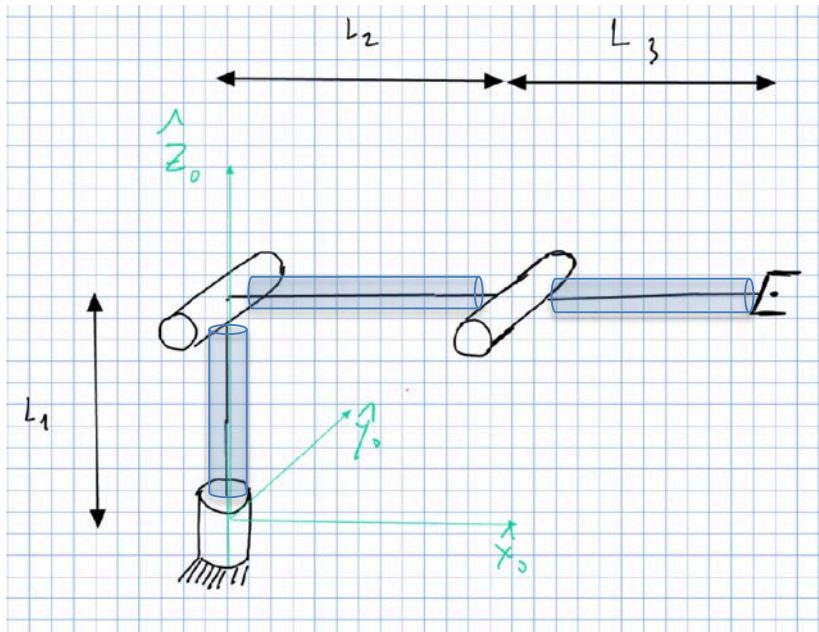

Fig. 1 – robot model for Lab 5
A 3DOF RRR manipulator has the kinematic structure represented in Fig.1. Use the Robot Toolbox for Matlab/Simulink (<http://www.petercorke.com>) to model the robot and to control it in the joint space. If some specifications are missing in this text make reasonable assumptions.
Step 1: Affix the frames to each link (frame zero with origin in the robot base, see Fig.1).